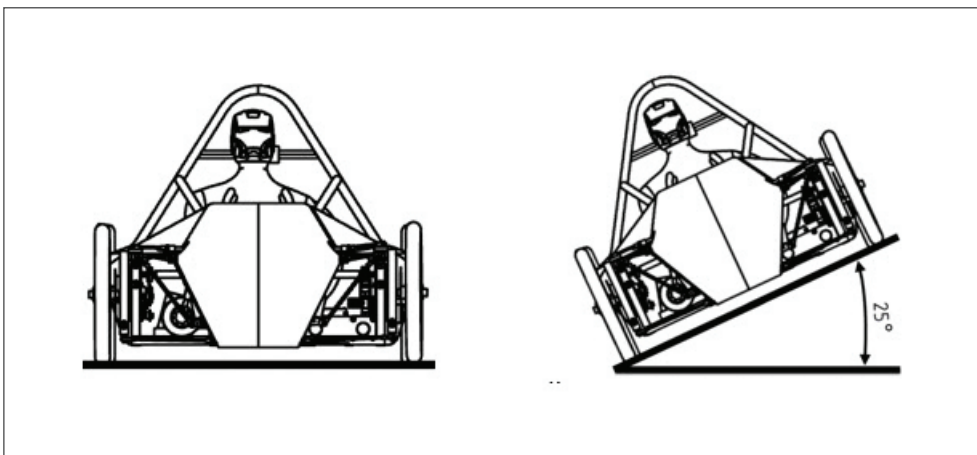

Figure 13 Tipping the motherboards
- c. Then the board has to be raised to 25° (Figure 13).